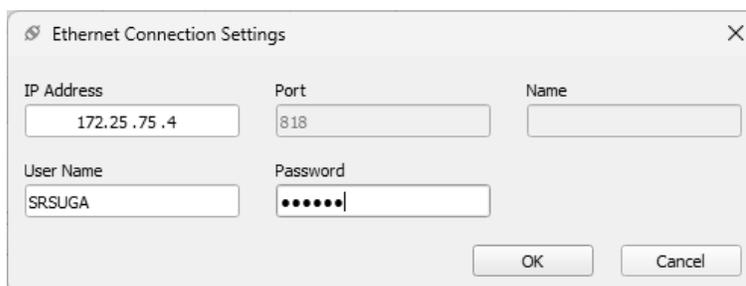

Fig. 2-8. Ethernet Connection Settings dialog box.
3. Double click an empty table row to bring up the Ethernet Connection Settings dialog box (Fig. 2-8).